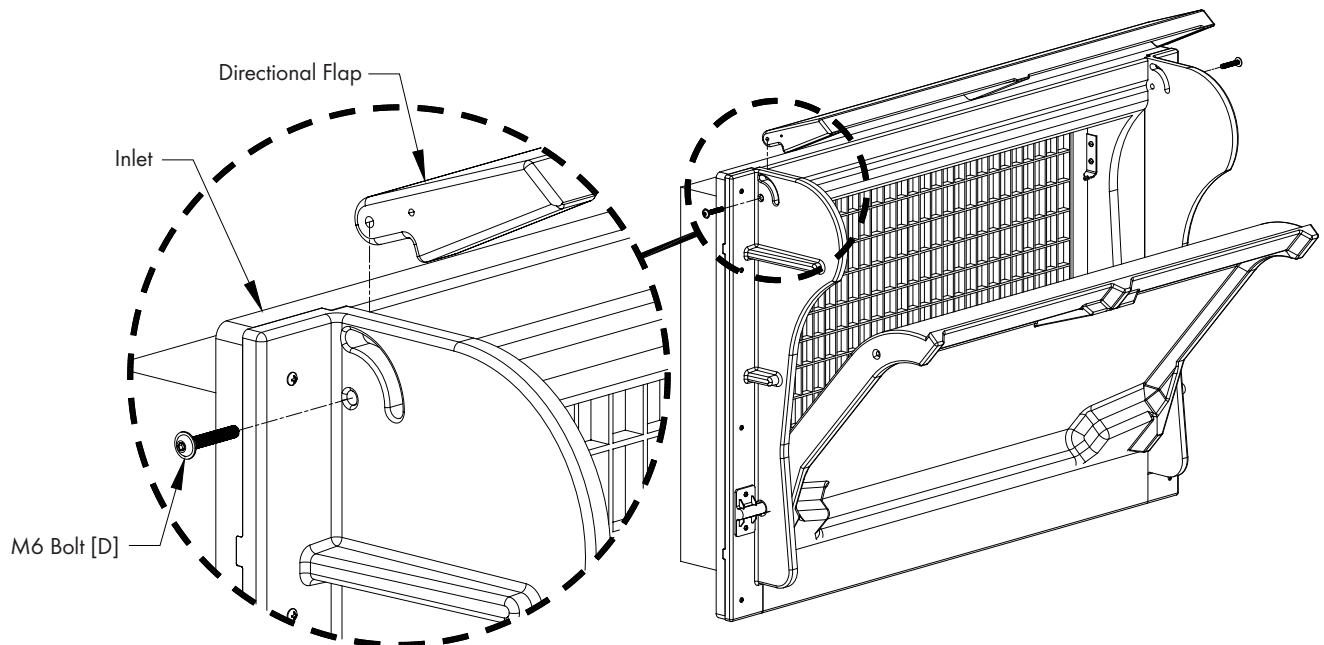

Figure 5
Slide Directional Flap into Inlet between Side Panels and fasten in place using (2) M6 Bolts [D]. See Figures 5.